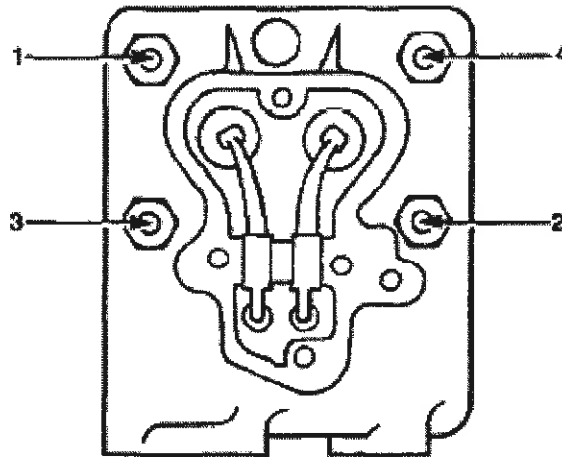

Figure 3 Cylinder Head Tightening Sequence
- b. Torque the four cylinder head retaining nuts to 49 N.m (36 lbf.ft) in the sequence shown (Figure 3).